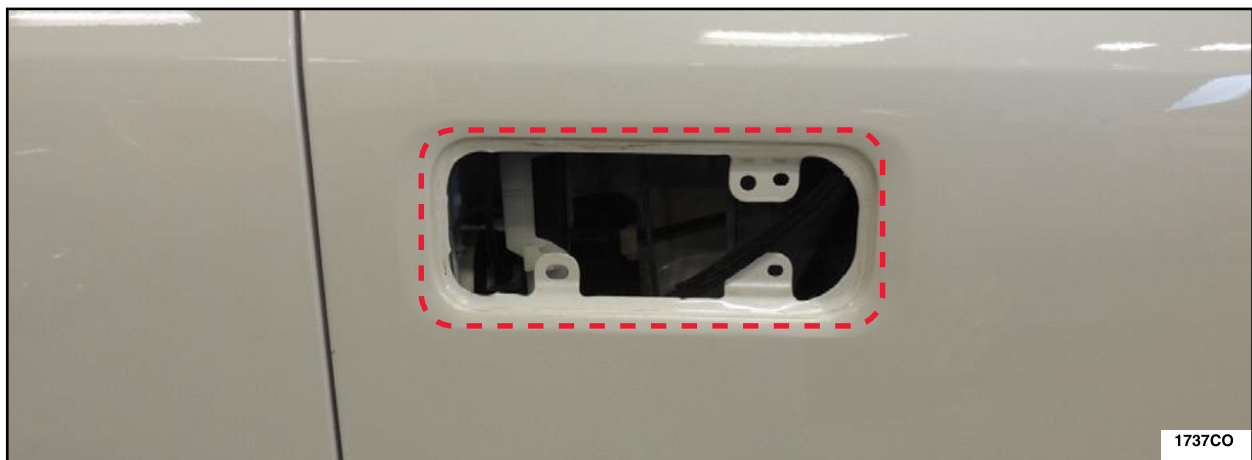

FIGURE 21
35. Using a clean shop towel and isopropyl alcohol, thoroughly clean inside the dotted lines on the mating surface area of the exterior front door handle opening. See Figure 21.